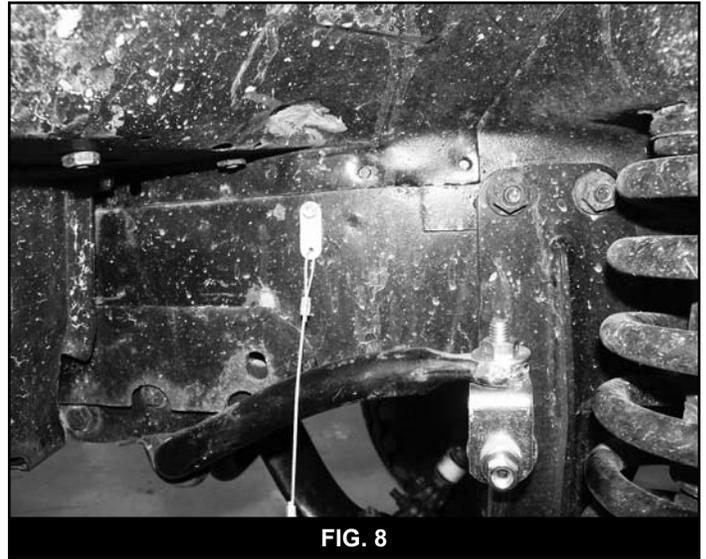

FIG. 8
42. Check the jam nuts to be sure they are securely locked off. Disconnect both end links and fold them up against the sway bar. Clip the provided lanyard/clip assembly around the sway bar/end link and find the best position for mounting the lanyard. This position will vary from vehicle to vehicle and with different suspension setups. Use your best judgment. Use the provided self-drilling screws to mount the lanyard to the body/frame (Fig 8).